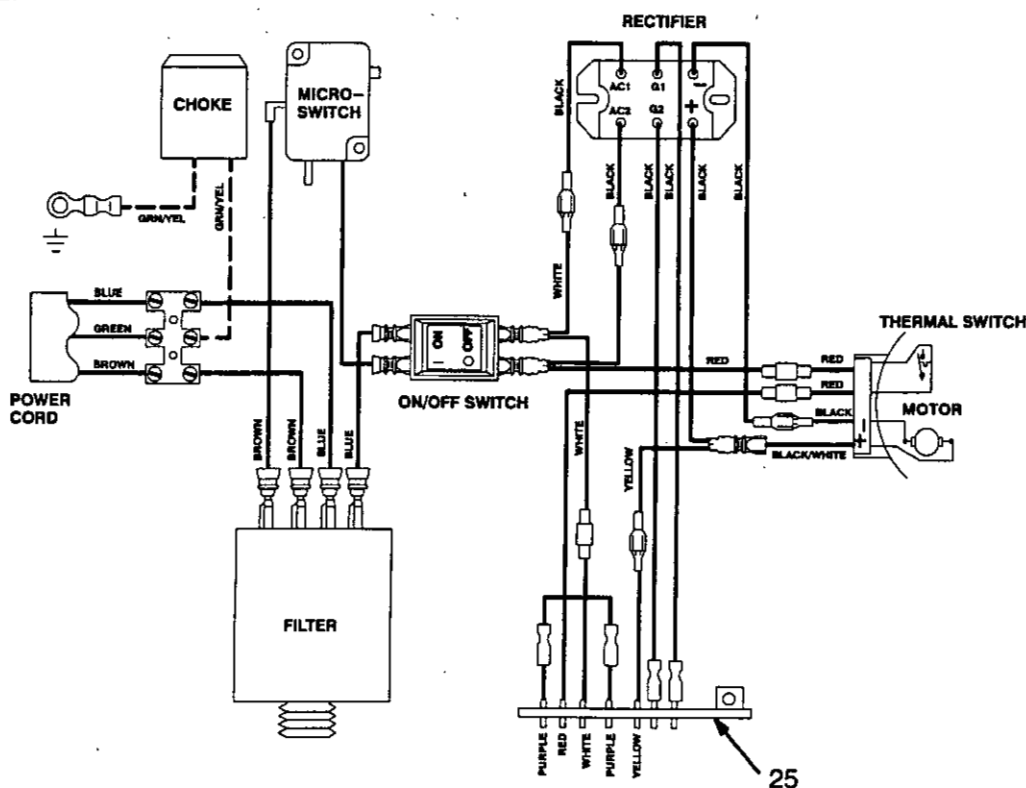

Fig. 23
3. Disconnect all the circuit board wires, including the two heavy black wires. Pay close attention to where connections are made. See Fig. 23.
4. To remove the board from the box, pull out the black plastic-tipped pin (330). Push the bottom of the circuit board toward the wall of the box and carefully slide the board out.
6. Reconnect all wires. Refer to the wiring diagram in Fig. 23.